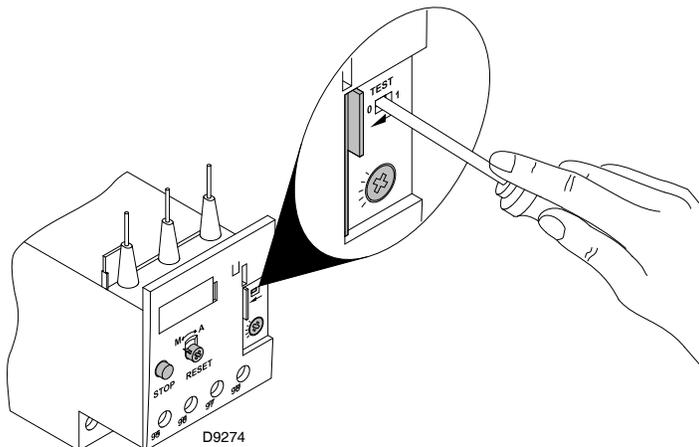

Fig. 28
- To test the thermal relay, insert a screwdriver in the window "TEST" (Fig. 28) and move it in the sense of the arrow (towards right).